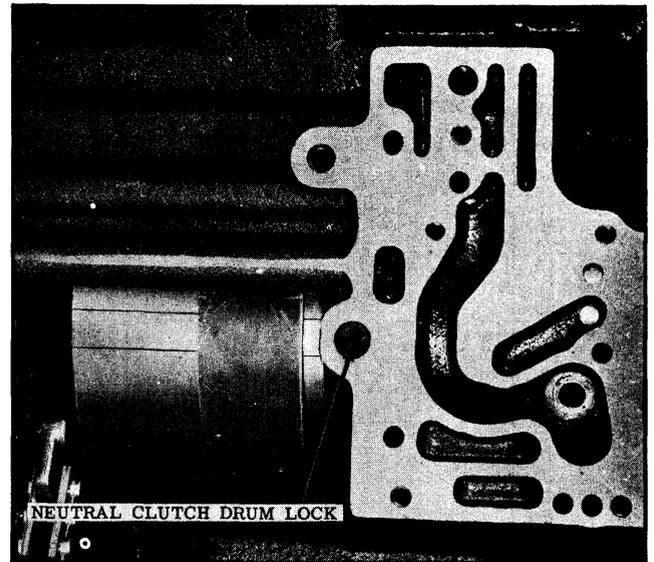

Fig. 3-90 Installing Neutral Clutch, Case Support & Rear Unit
3. Install case support, neutral clutch and rear unit assembly into transmission with pencil marks on rear drum aligned with neutral clutch drum lock. (See Fig. 3-90)